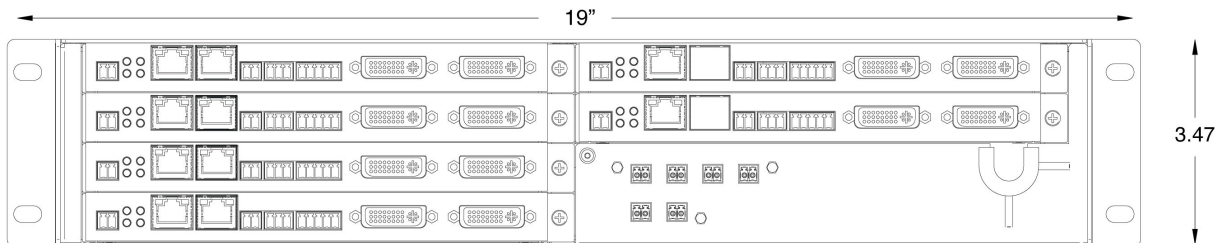

Figure 2-4. Fully-Populated Card Cage
5. Repeat these steps until all cards are properly installed. See Figure 2-4.